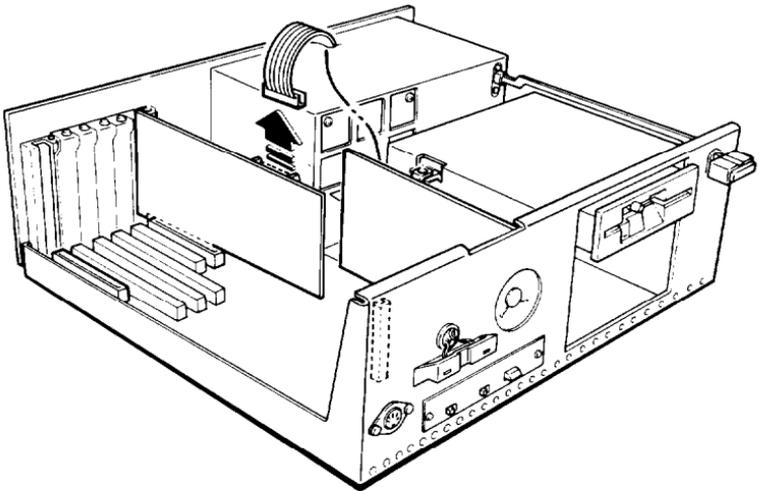

Figure A-6. Disconnecting disk drive cable
1. Unplug the disk drive cable from the card as shown in Figure A-6. Pull it straight up and out, then lay it to one side.